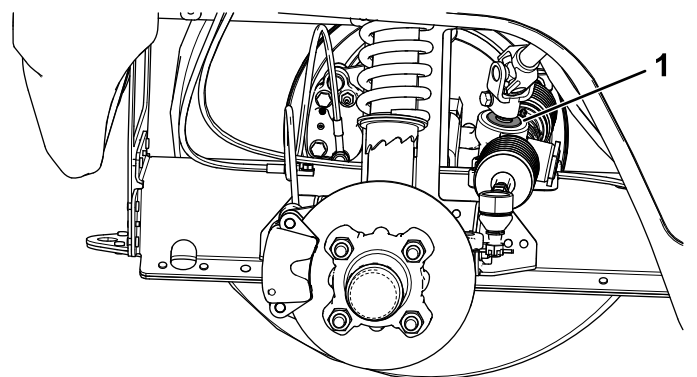

Figure 47
**Important:** Inspect the condition and security of the pinion-shaft seal (Figure 47).